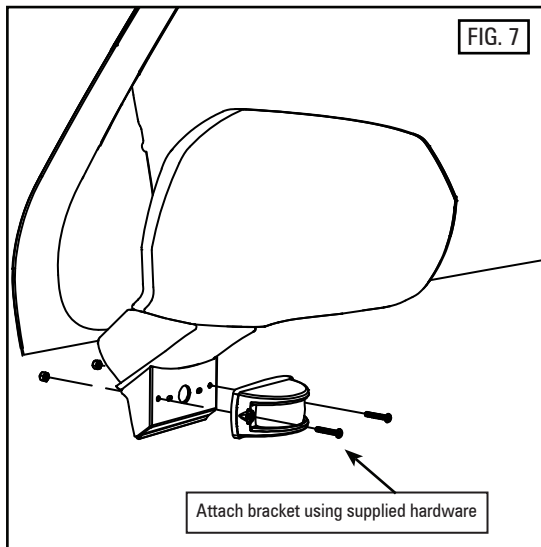

FIG. 8
7. Once the bracket is fully secured, remove the mirror from the vehicle. Guide the wire through the hole in the bracket face, the hole in the housing of the mirror, and through the rubber grommet that is between the mirror and the vehicle chassis, as shown in FIG. 8.